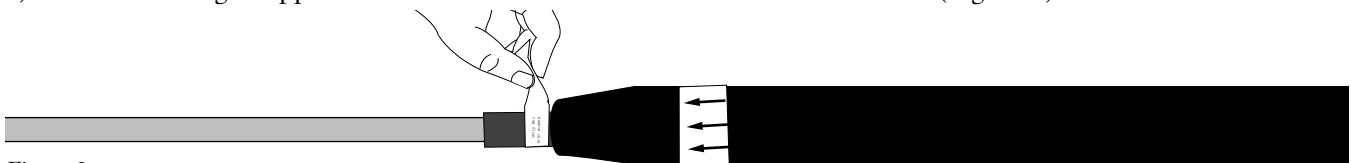

Figure 2
a) Remove the tag wrapped over the heat shrink at the cable-end of the sleeve (Figure 2).